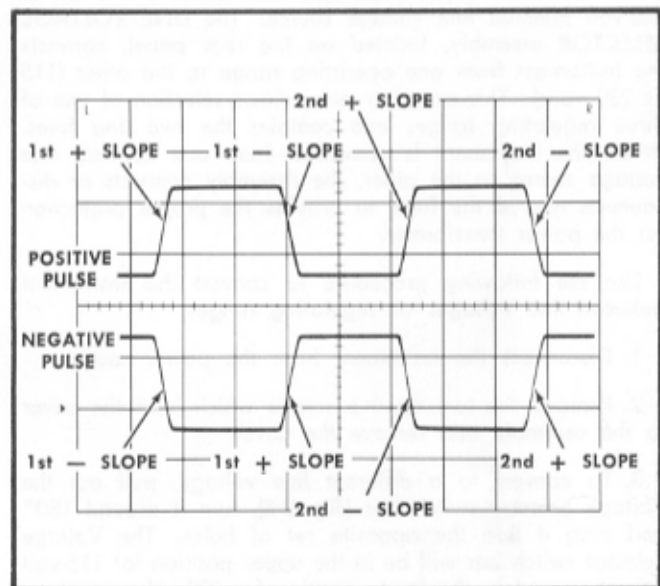

Fig. 2-4. Pulse slope definitions.
**SLOPE.** Refers to the rising or falling portion of a pulse or waveform which is being presented on the CRT of the Type 568 Oscilloscope. Two types of slopes will be referred to; a positive slope (rising) and a negative slope (falling). See Fig. 2-4 for pulse slope definitions.